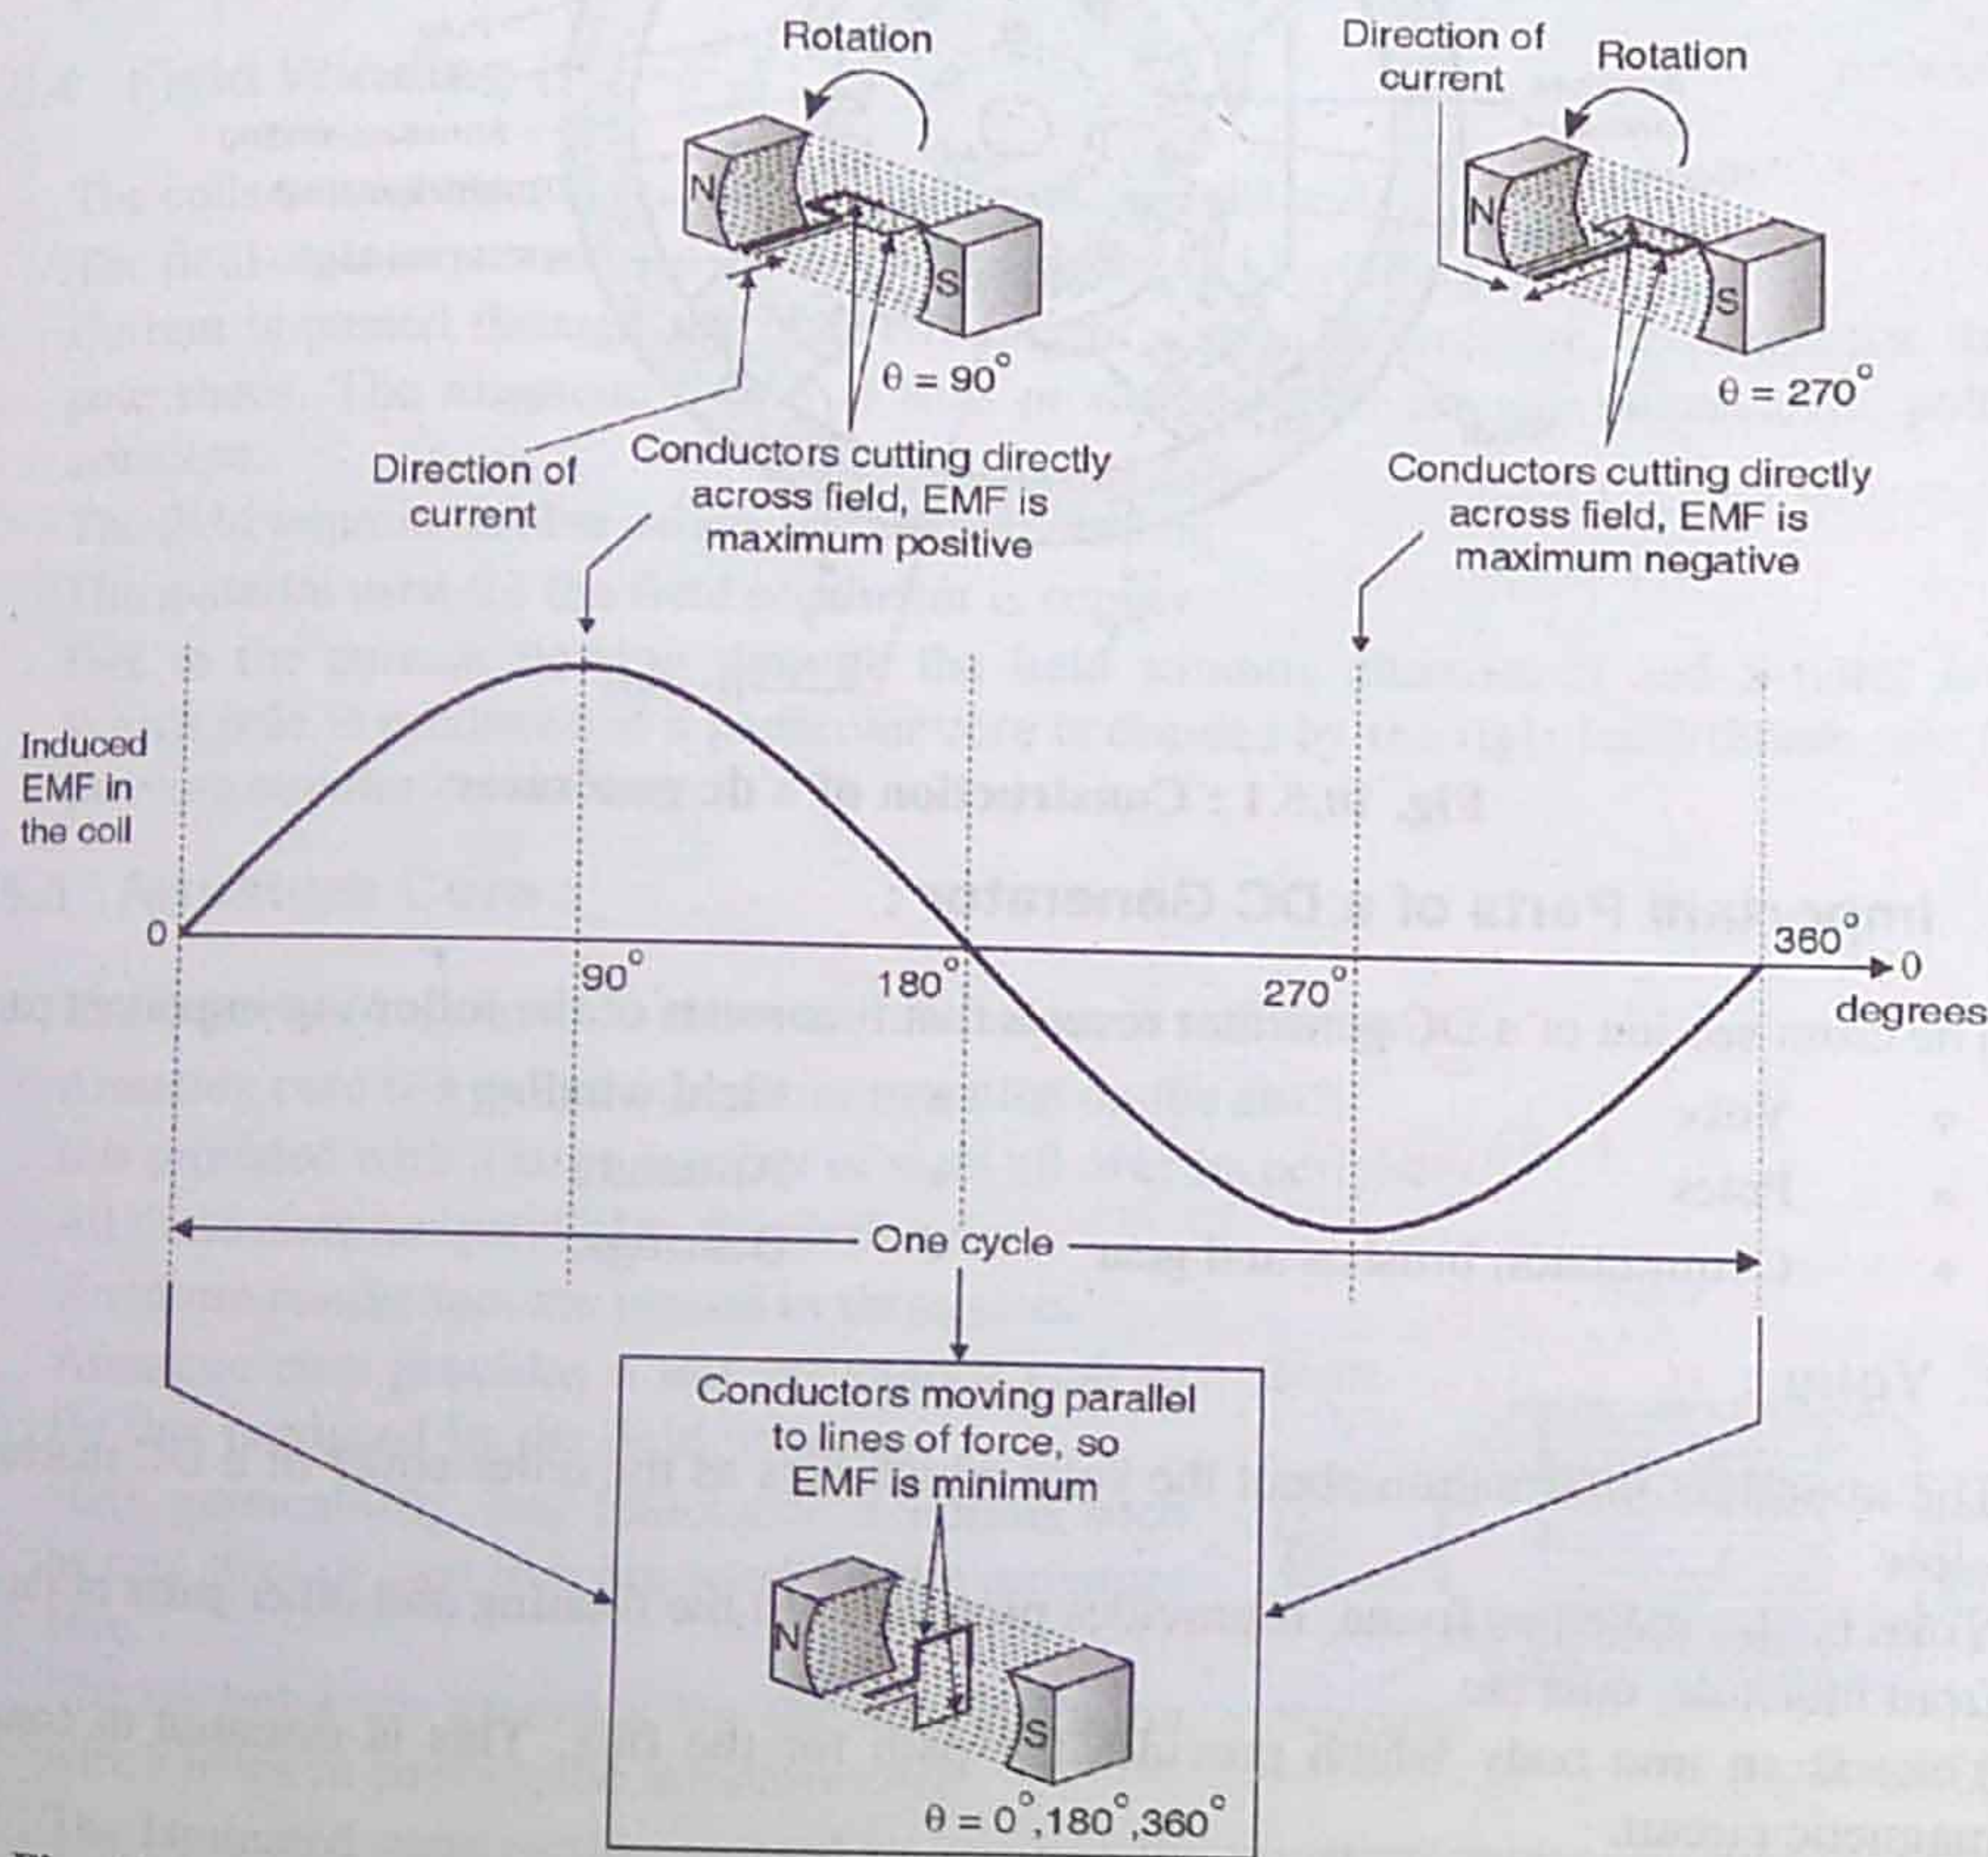

Fig. 10.4.2 : Shape of induced emf and corresponding positions of single turn coil
- Hence the shape of the induced voltage and the corresponding positions of the single turn coil are shown in Fig. 10.4.2.